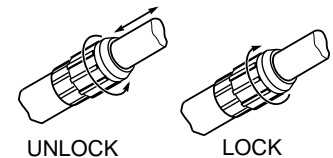

Figure 8 - Extending Telescopic Pole
1. To extend the pole, loosen coupling by turning coupling nut counterclockwise as shown in Figure 8.
3. To lock pole in position, tighten coupling by turning coupling nut clockwise (see Figure 8) until firmly hand tight. Make sure saw handle is aligned with pole handle before tightening coupling nut. **IMPORTANT:** Do not use wrench or pliers to overtighten coupling. Damage to coupling or pole may result.